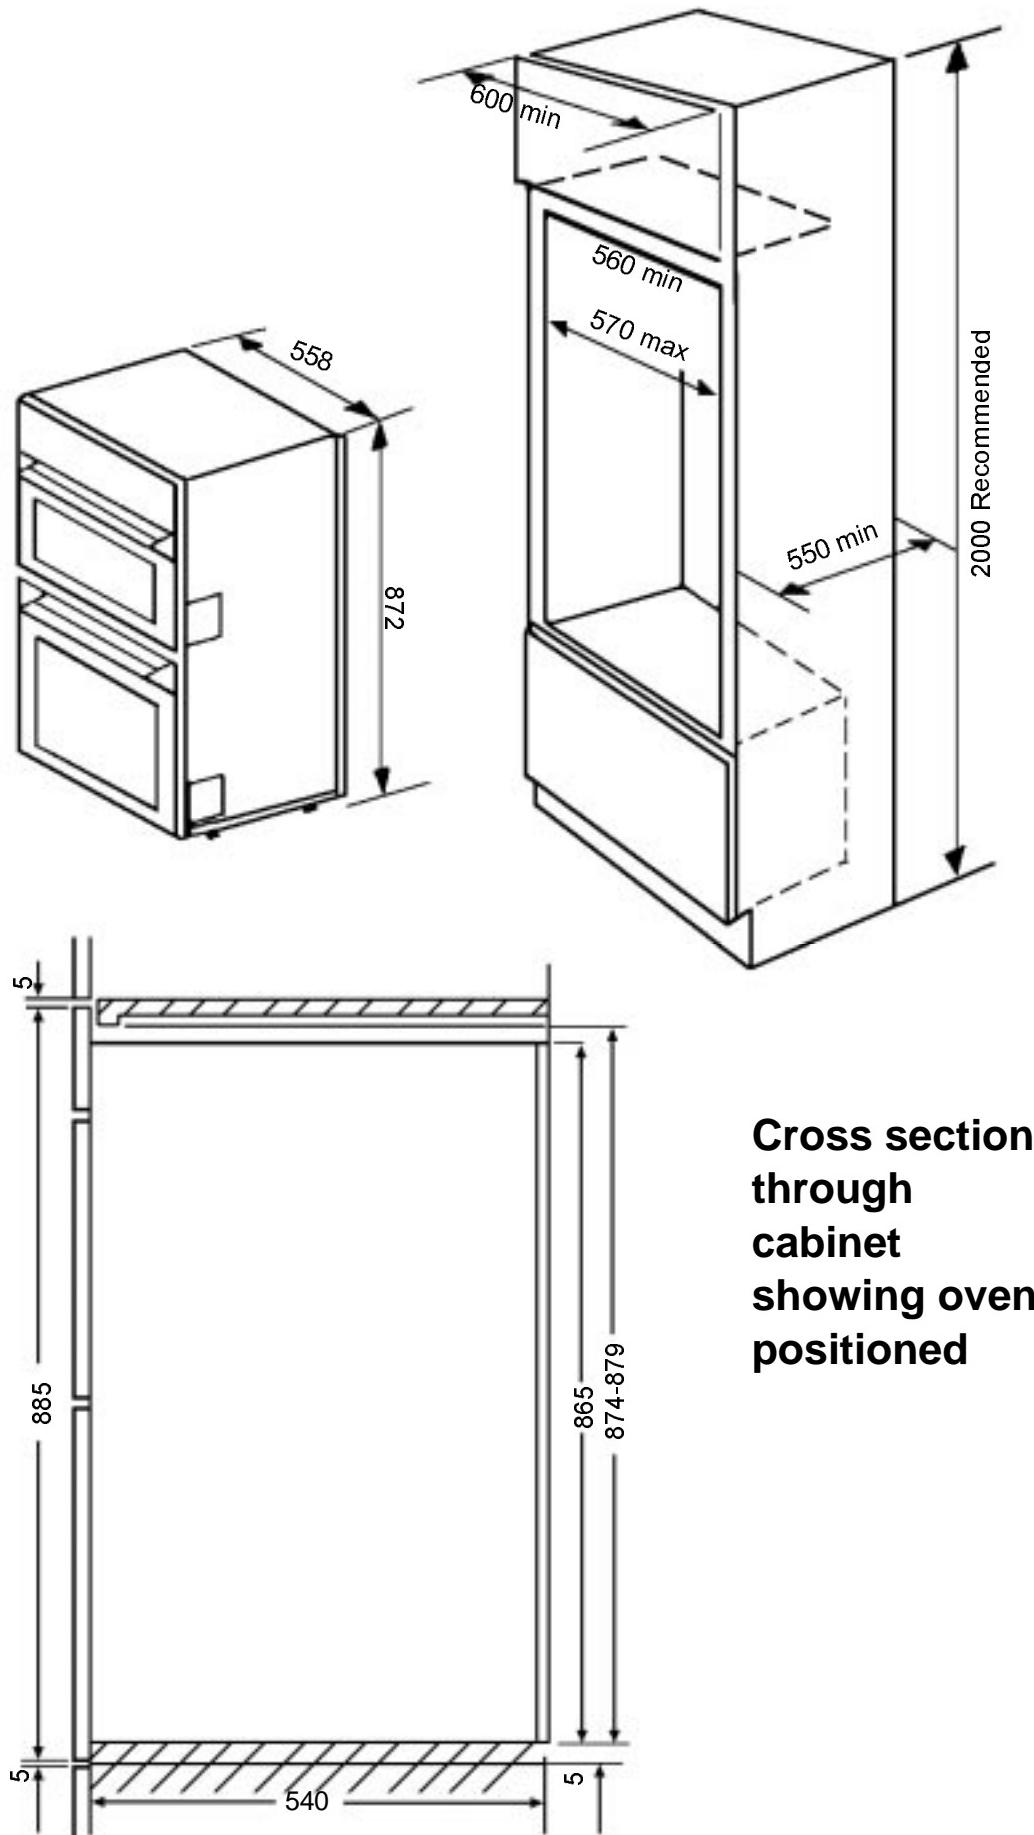

Fig.2 Built In Installation
- This cooker is designed to be fitted in cabinets of the recommended dimensions as shown (Fig. 2).
- Make sure the cabinet is the correct size for the appliance to be fitted (Ref. Fig. 2).